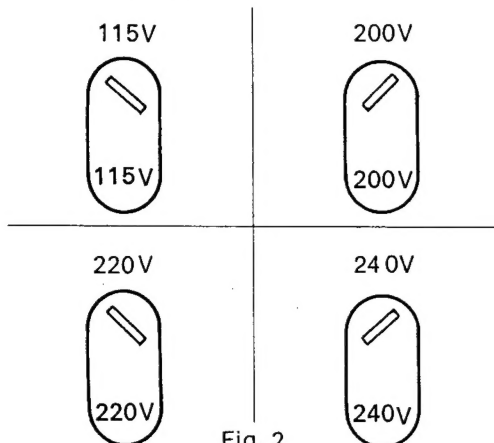

Fig. 2
- 1) Before operating this receiver, confirm your local voltage. If the voltage selector^③ is not set properly, reset it to your house-current voltage position with a screwdriver. Four different voltage (115V, 200V, 220V and 240V) are available (Fig. 2). However, Model RE-7860LBE without voltage selector should be operated on 240V AC only.
- 2) Plug the power cord^③ of the receiver into any house AC outlet.